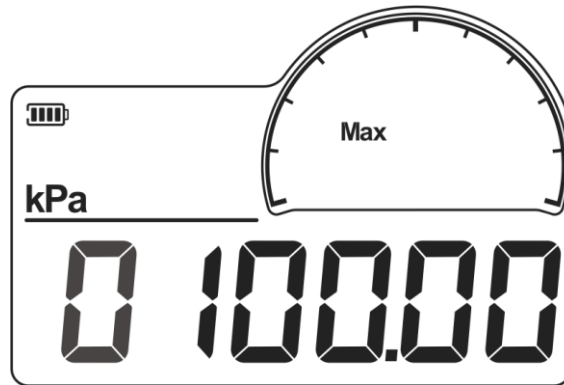

Figure 23 Upper limit calibration point
3. Display the upper limit calibration point, as shown in Figure 23, the identifier area displays Max to indicate the upper limit of calibration. The main display area displays the pressure reference value being edited. If the user wants to change calibration point, just change it directly. If not, press Enter button to confirm.